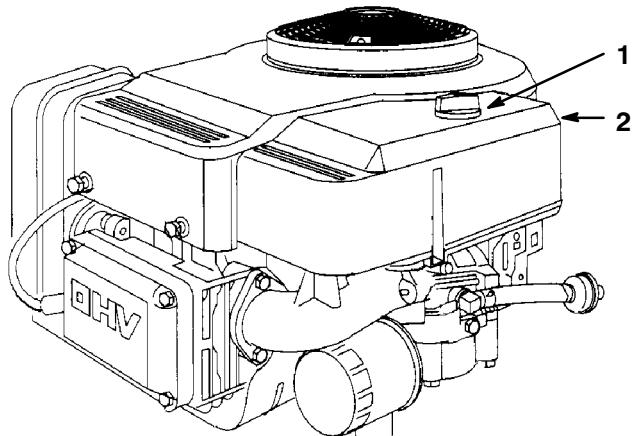

Figure 23
3. Clean around the air cleaner to prevent dirt from getting into the engine and causing damage. Unscrew the knob and remove the air cleaner cover (Fig. 23).
3. Install the air cleaner cover and knob (Fig. 23). Tighten the knob snugly.